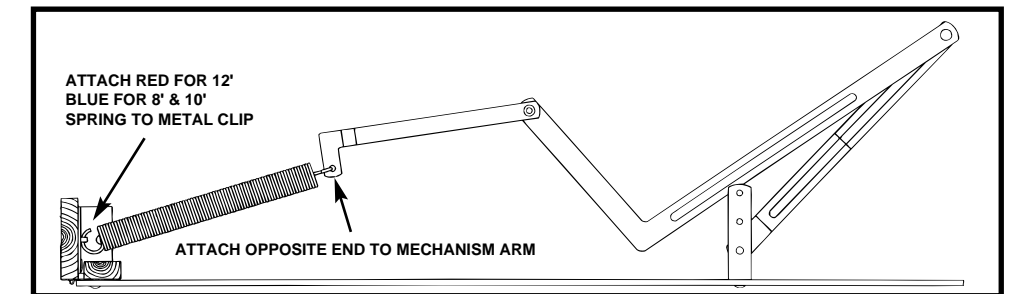

Figure 5
STEP 3. Attach one end of a spring to a mechanism arm and the opposite end of spring up through clip in metal corner bracket of frame (see Figure 5).